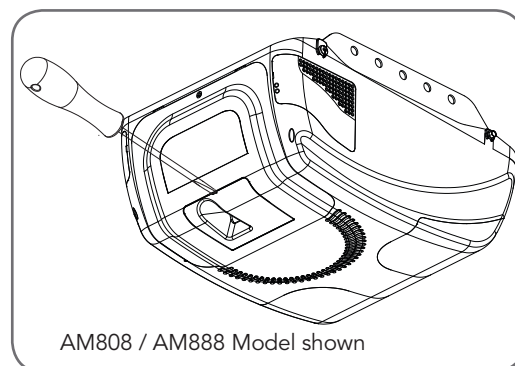

Fig.6.4.1
- Remove the button ver (**Fig. 6.4.1**).
Remove the controls cover (**Fig.6.4.1**) to access the controls panel and place it back when finish programming.